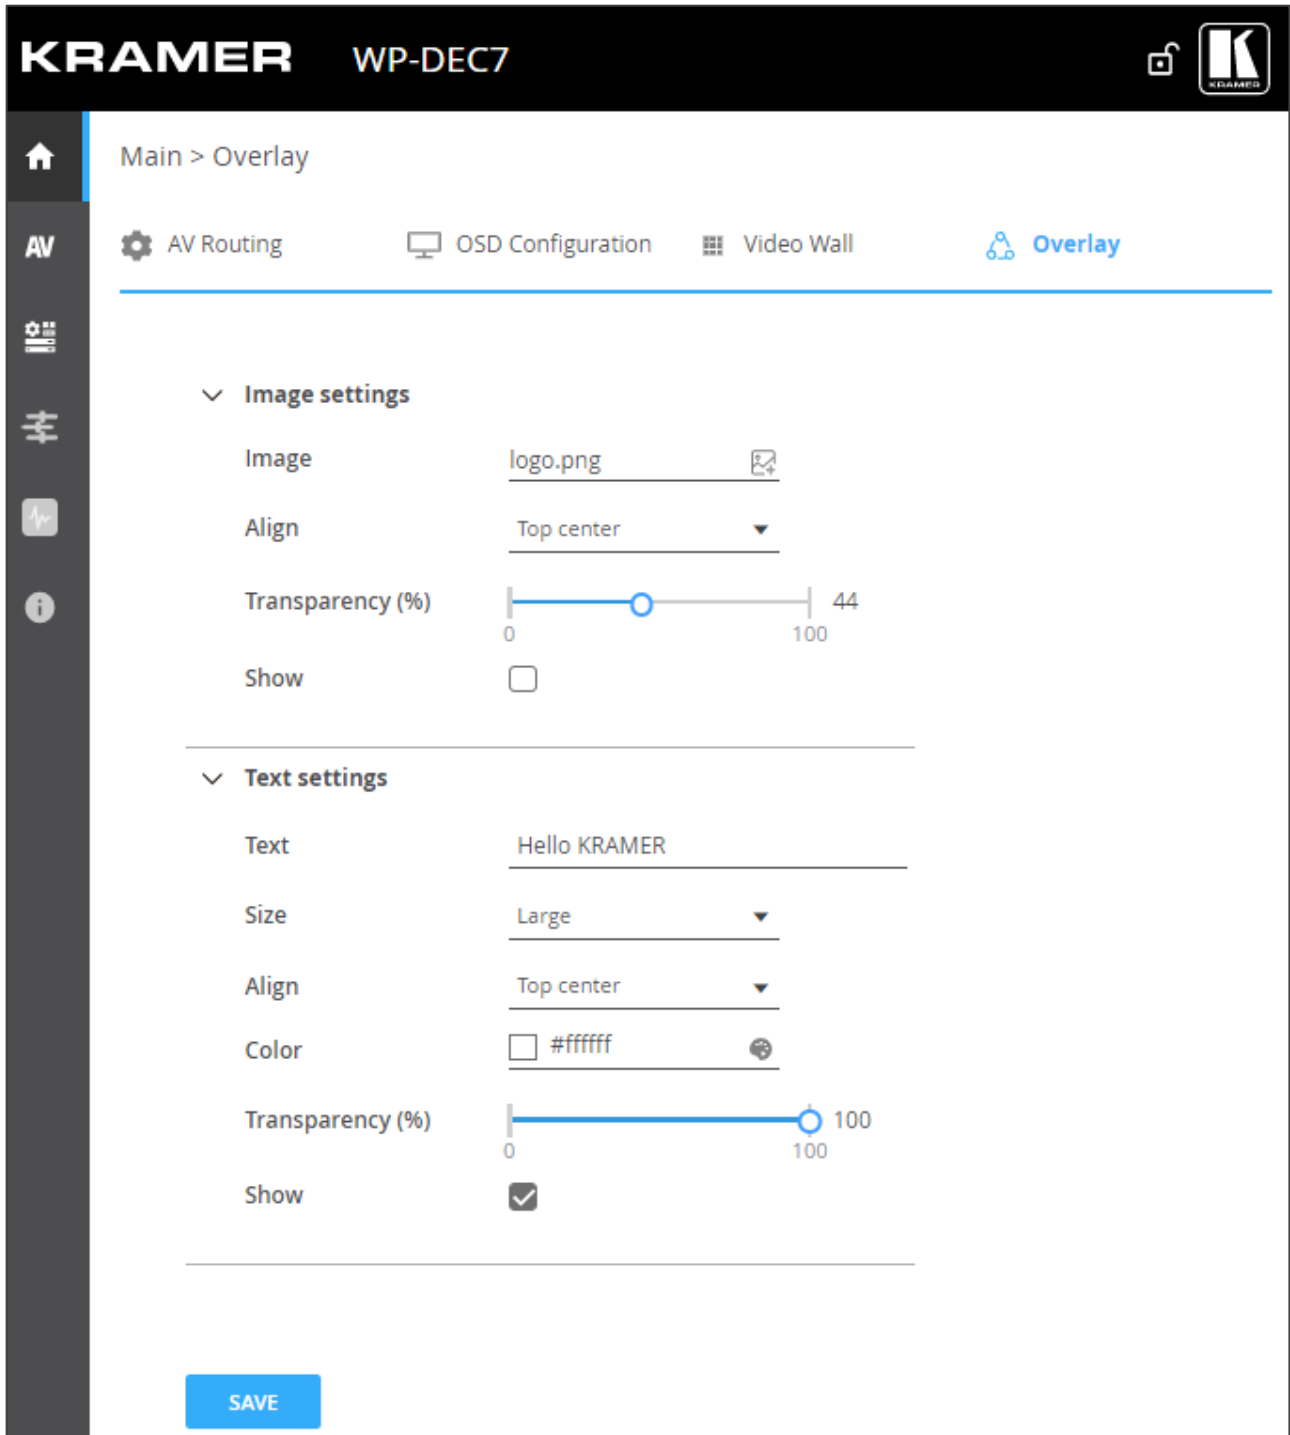

Figure 16: Main – Overlay Tab
2. Select the Overlay tab (see Figure 16).